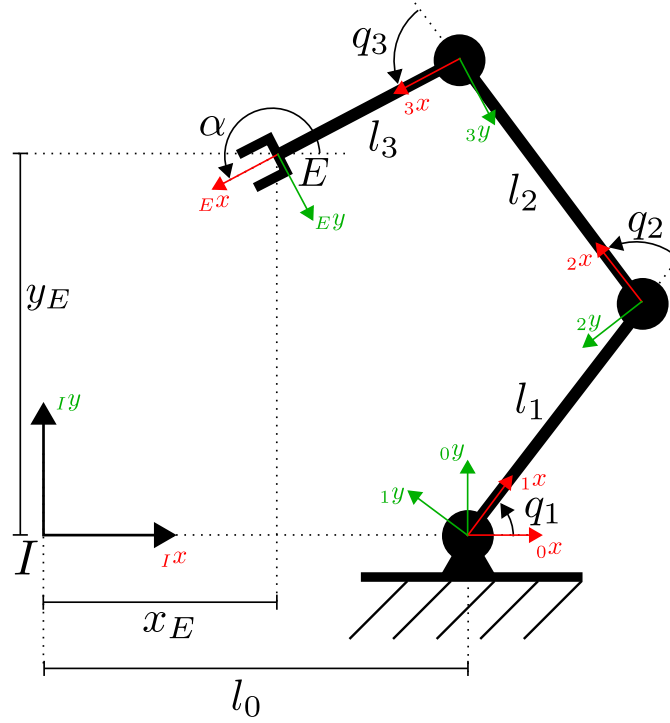

Figure 1: The three degree of freedom planar robotic arm considered in this document.
In this quiz, you will model the dynamics of the robot arm shown in Fig. 1 and use it for control. It is a fixed base manipulator with 3 degrees of freedom. All joints rotate around the positive z axis. The generalized coordinates are defined as
4. Assume the robot arm in Fig. 1 is initially stationary, i.e., no movement, no acceleration, and the joint torques perfectly compensate for gravity. If you now apply an external force at the end-effector, the resulting acceleration of the end-effector will be instantaneously parallel to the force. TRUE / FALSE